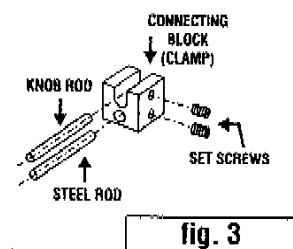

fig. 3
4. Use a connecting block to connect the steel rod and knob rod together, tighten the set screws in the connecting block after making sure there is adequate allowance for the actuator (as in fig. 3 & 4).